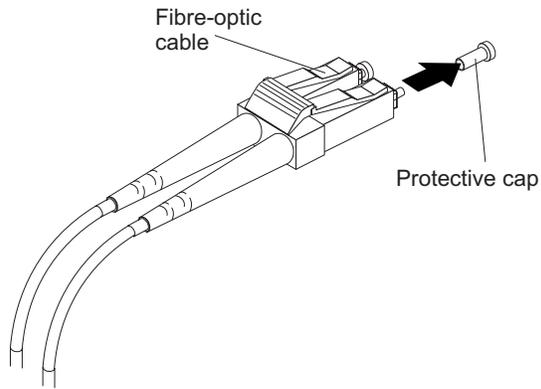

Figure 28. Removing fiber-optic cable protective caps
3. Remove the two protective caps from one end of the LC-LC cable, as shown in Figure 28 on page 52. Save the protective caps for future use.